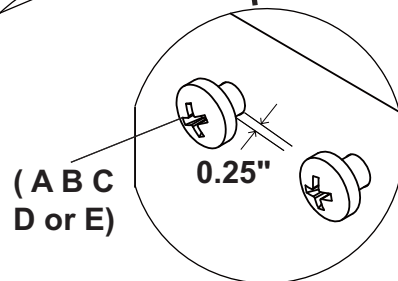

fig.C.2.1
Insert two for 200x200 & 200x100 VESA patterns appropriate sized bolts(C) into the top two mounting holes on the back of your display as shown in **fig.C.2.1** Leave approx. 1/4" of exposed thread.